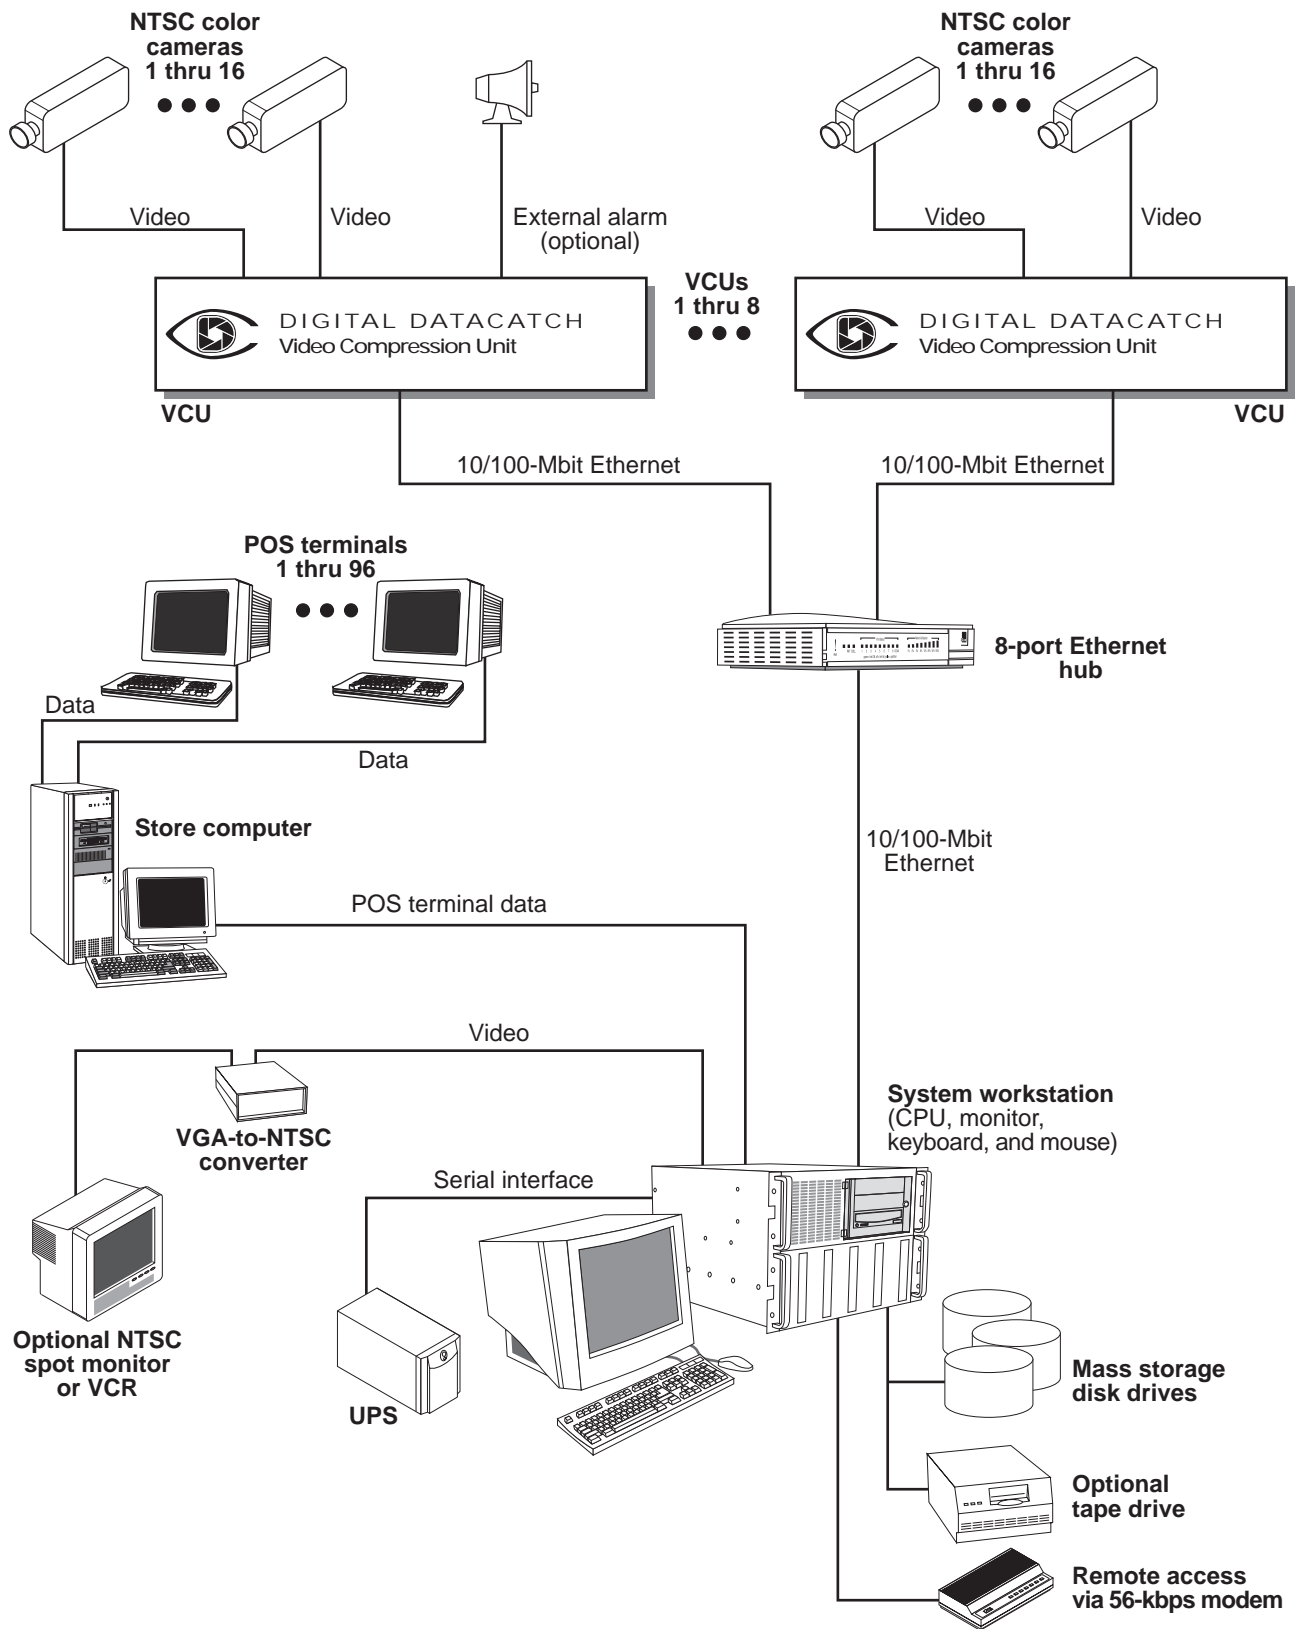

Figure 1. Digital DataCatch system diagram
As shown in figure 1 on page 14, the Digital DataCatch security system consists of the following major components:
- POS terminal data (see figure 1). Each POS terminal sends transaction data to the store computer.
- The store computer. The computer takes transaction data from the POS terminals and sends that information to the system workstation via data interface cables (see figure 1).
- An alarm relay closure alarm (see figure 1). The external alarm sounds if input power to a VCU is lost or if the video input signal from a camera is interrupted.